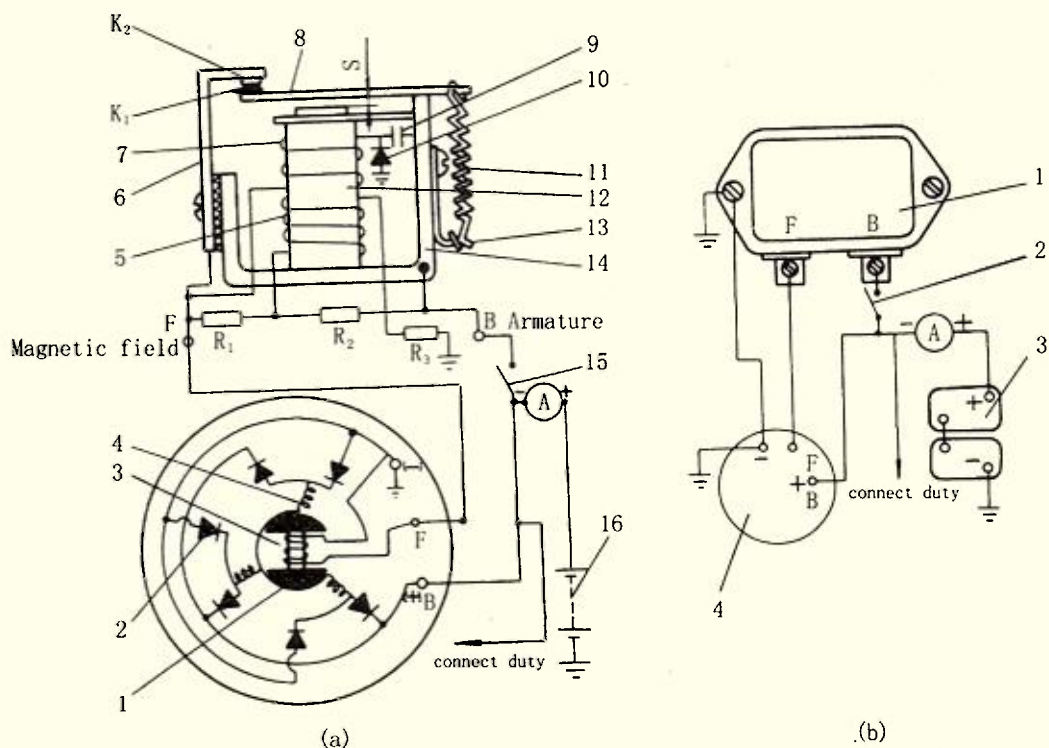

Fig. 18 - 4 Circuit diagram of generator and regulator
Generator mainly consists of stator, rotor, silicon rectifying device , etc. Its structure is as shown in Fig. 18 - 1.
Stator is made up of the cylinder iron core piled up with silicon steel plates and the stator winding inserted into the inner - wall groove of the iron core. It is the armature of the generator and its winding is divided into 3 phases, forming a star - delta connection (Y - shaped), as shown in Fig. 18 - 2.
Rotor is made up of pawl magnetic poles 3,5, field winding 4 and collectors 1,2 (as shown in Fig. 18 - 3). The magnetic poles are made into the jigsaw pattern and inserted with each other. Both ends of the rotor field winding are respectively connected on the two collectors, which insulate with the shaft, and then through the two brushes respectively connected on the earth terminal (negative terminal of the generator) on the end cap and the magnetic field terminal .
On the back cover of the generator is installed a piece of component plate which insulates with the back cover. On the plate there are three silicon diodes with red marks, called positive diodes. Their leads are respectively joined with three terminals and their housings (negative) are pressed in the plate and insulatingly cross the end cap via bolts 23 (see Fig. 18 - 1), acting as the armature terminal B (+) of the generator. The other three silicon diodes with black marks are called negative diodes. Their
leads are also respectively joined with three terminals 3 and their housings(positive) are pressed in the rear end cap 17 and connected with the earth terminal (-) 26. These six silicon diodes are connected into the three phase bridge rectifying circuit (see Fig. 18 - 2c).
The regulator consists of iron core 12, main magnetizing winding 5, vibration - assisting winding 7, vibration contact arm 8, contact bracket 6 and spring 11, etc, as shown in Fig. 18 - 4a. There are
additional resistance R_1 , vibration - assisting resistance R_2 and temperature - compensated resistance R_3 under the bottom plate. Connecting the regulator and the outside circuit with three terminals: the terminal connecting the positive terminal of the generator (B), the terminal connecting the magnetic field terminal of the generator (F), the terminal connecting the negative terminal of the generator, as shown in Fig. 18 - 4b.
In operation, do not disassemble and adjust FT111 regulator at will. Only when the trouble is certainly caused by the regulator, disassembly and adjustment can be performed according to the regulations. Generally speaking, first check if there is dirt on the contact, then check the clearance (called air gap) between the iron core and the contact arm, the value should be 1.4 ~ 1.5 mm, if it is not proper, make adjustment by moving the contact bracket up and down. Measure the output voltage of the generator with 0 ~ 30V DC voltmeter and 0 ~ 30A high - precision ammeter. The voltage should be at 13.5 ~ 14.5V when the generator load is 50%, otherwise, adjust the spring tension. When the voltage is relatively low, stretch the spring 11 (see Fig. 18 - 4) to increase the spring tension, on the contrary, compress the spring.